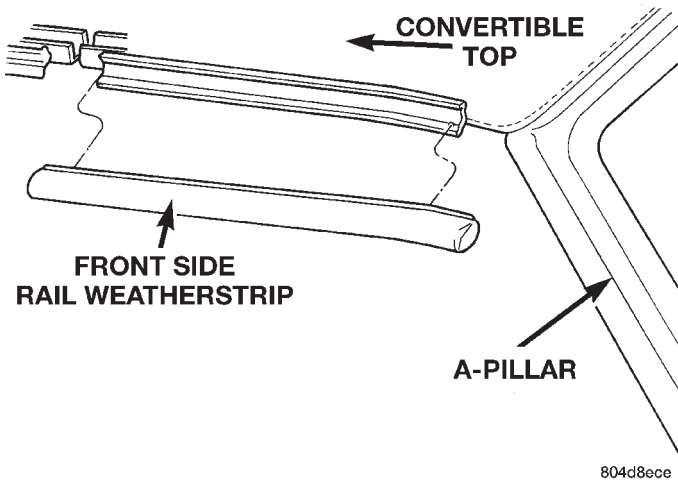

Fig. 43 Front Side Rail Weatherstrip
- (1) Partially raise convertible top.
- (2) Using a trim stick, special tool C-4755, separate one end of weatherstrip from retainer channel.
- (3) Separate weatherstrip from vehicle (Fig. 43).